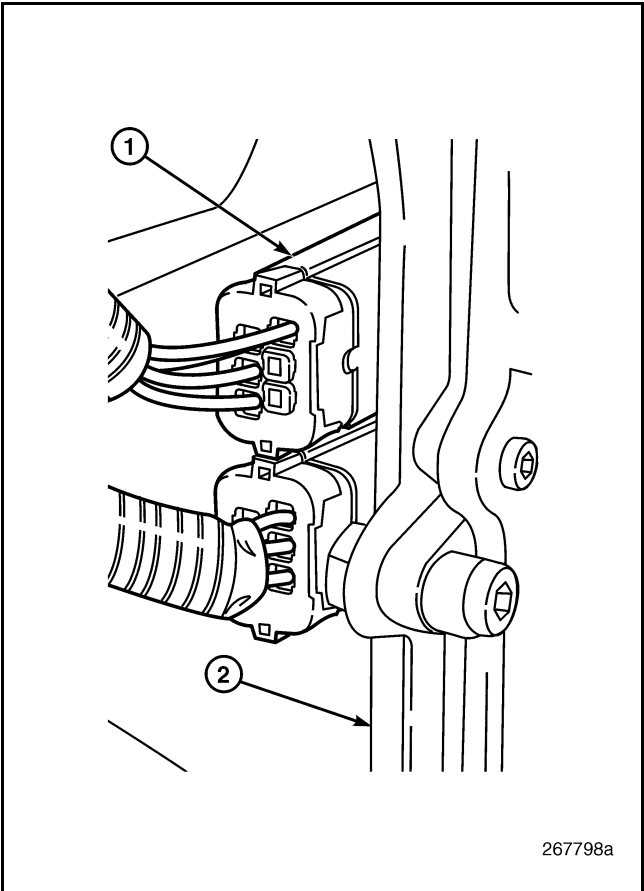

Figure 463 — EGR MASS Flow Module Connections
6. Disconnect the two harness leads from the EGR MASS Flow module mounted to the back side of the cooling plate (Figure 463).
4. Connect the wiring harness leads to the EGR MASS Flow module (Figure 463).